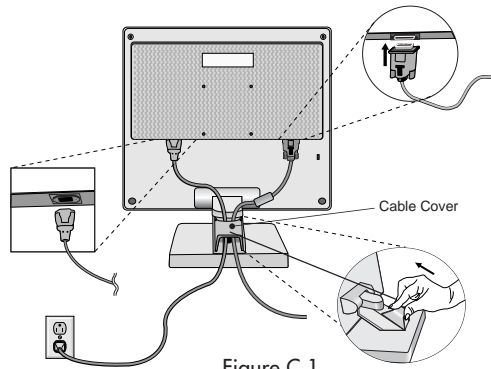

Figure C.1
4. Connect the 15-pin mini D-SUB of the video signal cable to the appropriate connector on the back of the monitor (**Figure C.1**).
5. Connect one end of the power cord to the MultiSync LCD Series monitor and the other end to the power outlet. Place the video signal cable and power cord under cable cover (**Figure C.1**). Replace cable cover.